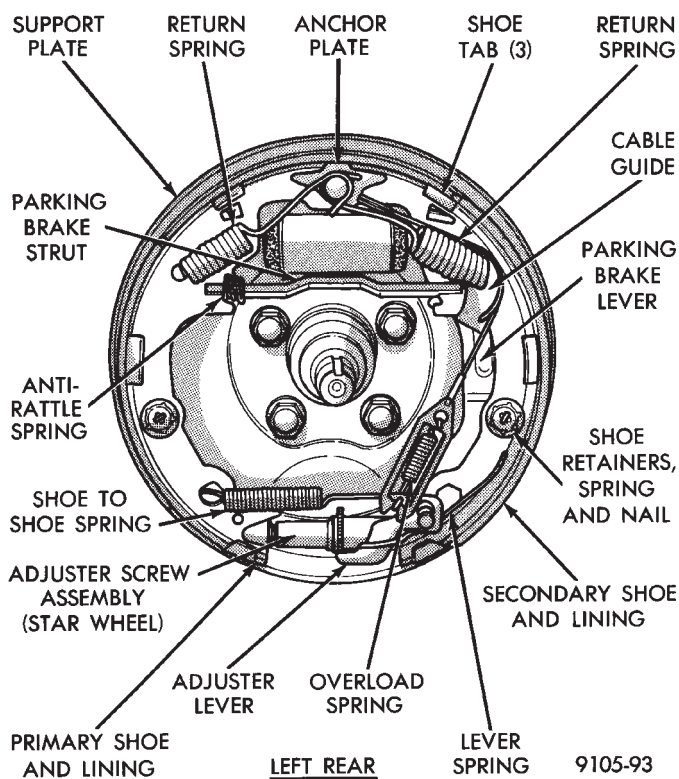
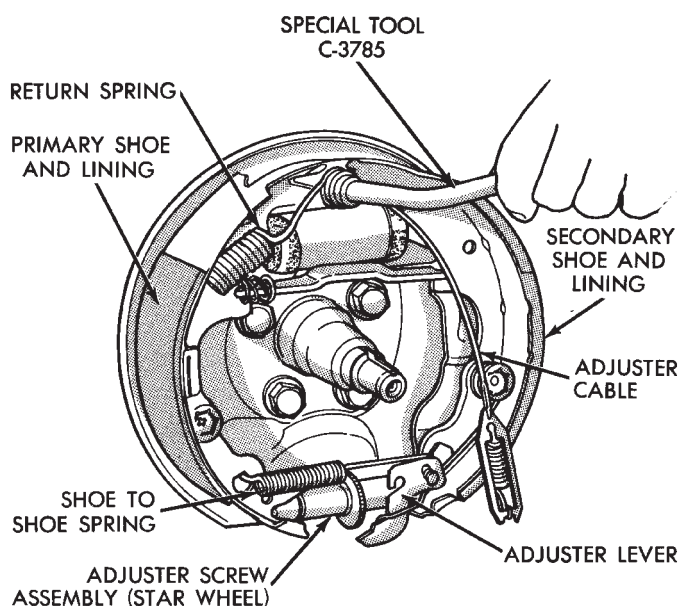
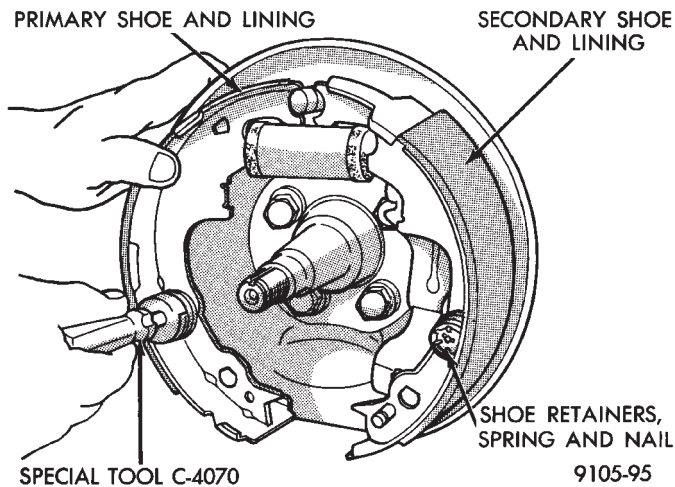

Fig. 1 Rear Wheel Brake F.W.D. Applications
Fig. 3 Removing or Installing Brake Shoe Return Springs
Fig. 4 Removing or Installing Shoe Retainers, Springs, and Nails
The procedure for rear brake shoe removal, is the same for both the Front Wheel Drive and All Wheel Drive van applications. Though some of the brake components may be slightly different (Figs. 1 & 2).
(3) Using Remover Special Tool C-3785, remove brake shoe return springs (Fig. 3). (Note how secondary shoe return spring overlaps primary shoe return spring). (Figs. 1 and 2).
(5) Disengage adjusting lever (Figs. 1 & 2) from spring by sliding it forward to clear pivot, then working it out from under spring. Remove spring from pivot. Remove shoe to shoe spring from secondary shoe web and disengage from primary shoe web. Remove spring.
(6) Disengage primary and secondary shoes from the adjuster screw assembly. Remove adjuster screw assembly.
(7) Remove brake shoe retainers, springs and nails using Remover Special Tool C-4070, (Fig. 4), and remove from support.
(1) Slide primary shoe against support plate, at the same time engage shoe web with wheel cylinder piston and against anchor. Using Installer Special Tool C-4070, install shoe retaining nail, retainer, and spring (Fig. 4).
(3) Engage primary shoe return spring in web of shoe and install free end over anchor, using Spring Installer, Special Tool C-3785 (Fig. 3).